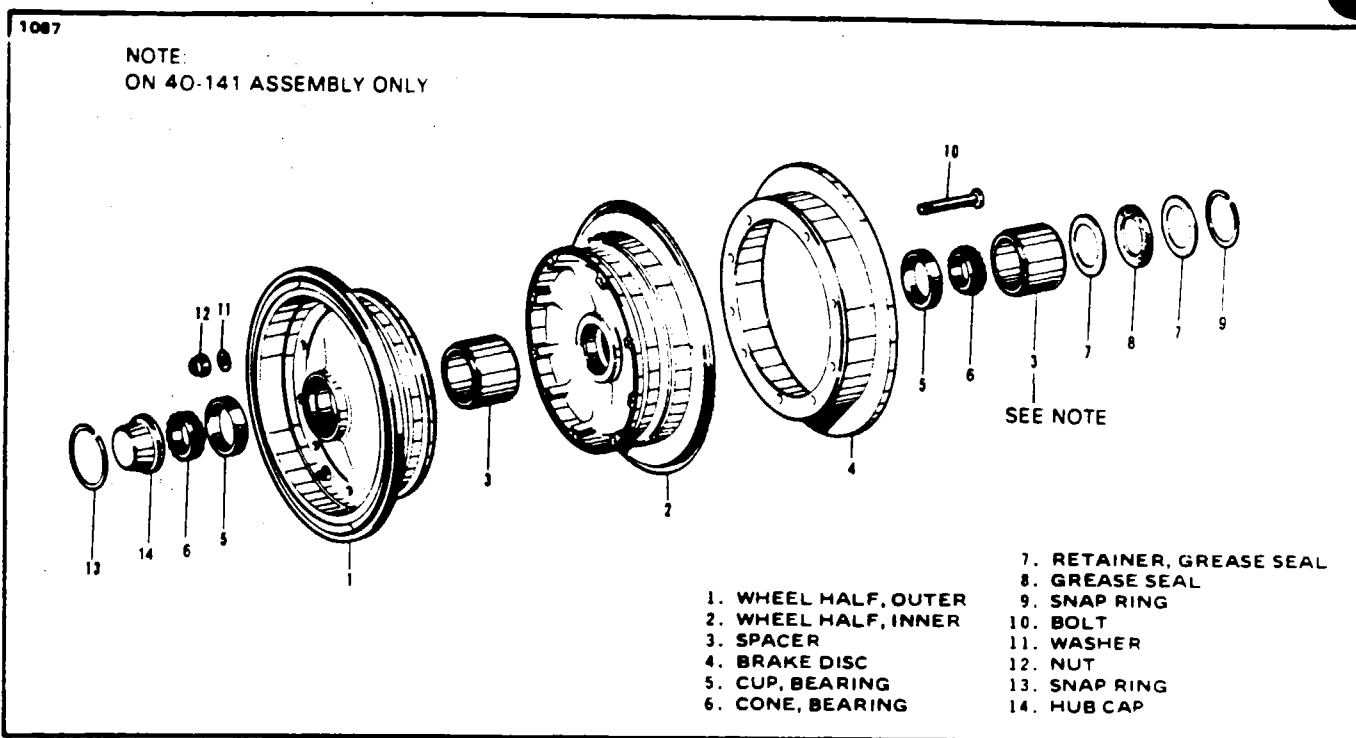

Figure 32-15. Main Wheel Assembly (Cleveland)
REMOVAL AND DISASSEMBLY OF MAIN WHEEL. (Refer to Figure 32-15.)
ASSEMBLY AND INSTALLATION OF MAIN WHEEL. (Refer to Figure 32-15.)
3. Place outer wheel half into tire and pull tube valve stem through valve hole. Turn tire and outer wheel half over and place the spacer (refer to Figure 32-15) and inner wheel half into position and align the bolt holes with the outer wheel half and the brake disc. Install bolts through the brake disc and inner wheel half and washers and nuts on the outer wheel half. Torque wheel nuts per recommended torque value on name plate of wheel.